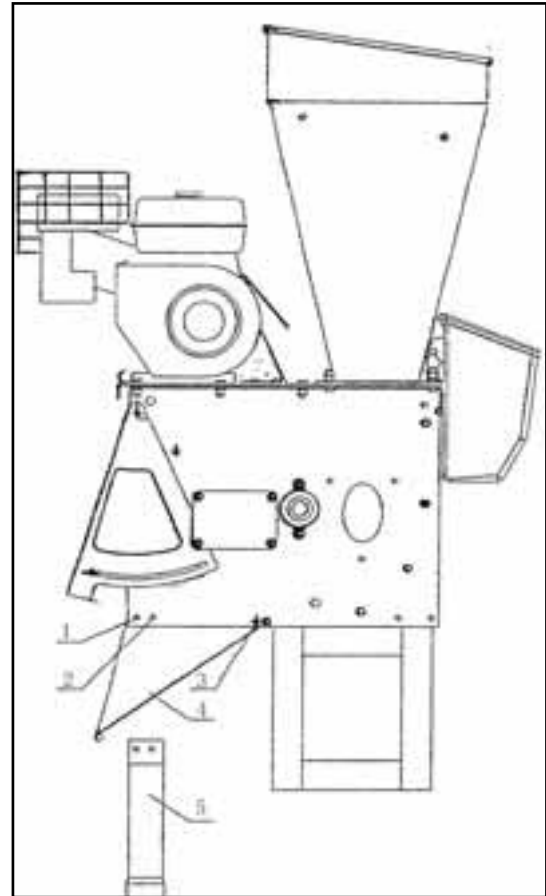

Fig 2
- Referring to Fig 2, attach the front foot to the machine.